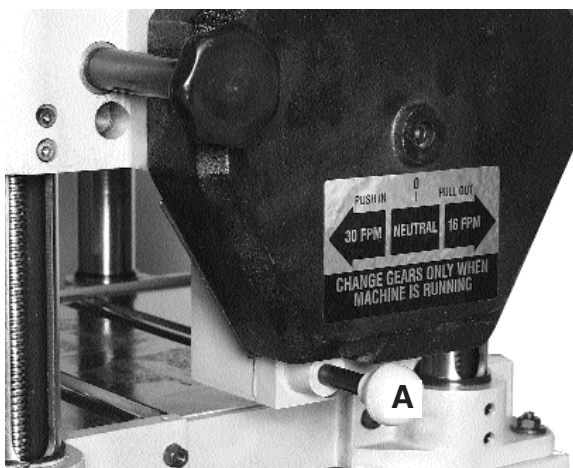

Fig. 8
Your planer has 2 feed roller speeds 16 fpm and 30 fpm. For general purpose planing on softer woods, the faster speed is suitable, but for hard timbers, the slower feed rate is more effective. A slower speed puts less strain on the motor. A slower feed rate will also give a better finish as there will be more cuts per inch. When changing the setting of the feed roller speed Fig. 8 (A) it is essential to have the machine running. Pull the speed control lever all the way out for the slow speed, 16fpm. The middle position is neutral, and pushing the lever all the way will give a feed roller speed of 30fpm.